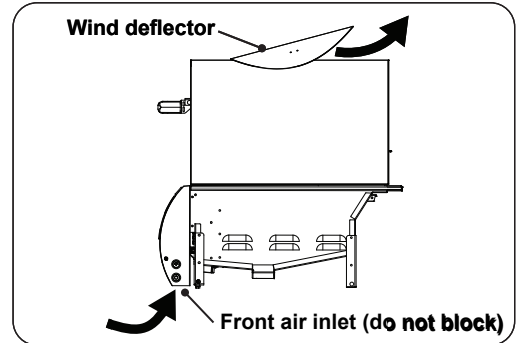
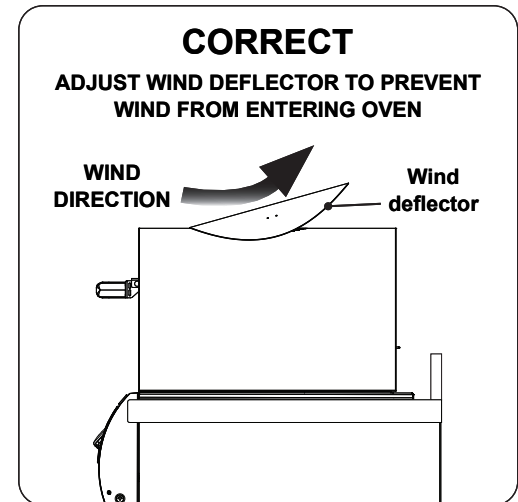

Fig. 19-2 Airflow diagram
Fig. 19-3 Airflow direction - CORRECT
Proper airflow (front-to-back, Fig. 19-2) **MUST** be maintained for the unit to perform as it was designed. If airflow is blocked, overheating and poor combustion will result. Do not block the front air inlet along the bottom of the control panel.
**CAUTION:** Wind blowing into or across the oven exhaust (Fig. 19-4) can cause poor performance and/or dangerous overheating. Install the pizza oven so that the prevailing wind blows toward the front of the pizza oven (Fig. 19-3). A wind deflector is equipped to assist in proper airflow during windy conditions. See Fig. 19-2. **THE WIND DEFLECTOR WILL GET HOT WHEN THE UNIT IS ON.**